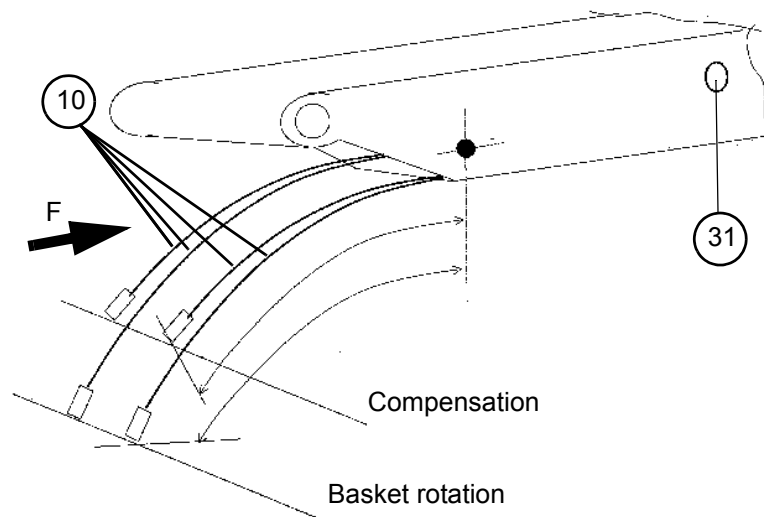

Figure 11
- Insert the 4 hoses (10) together, along the same route as the 42-wire cable (Figure 11).